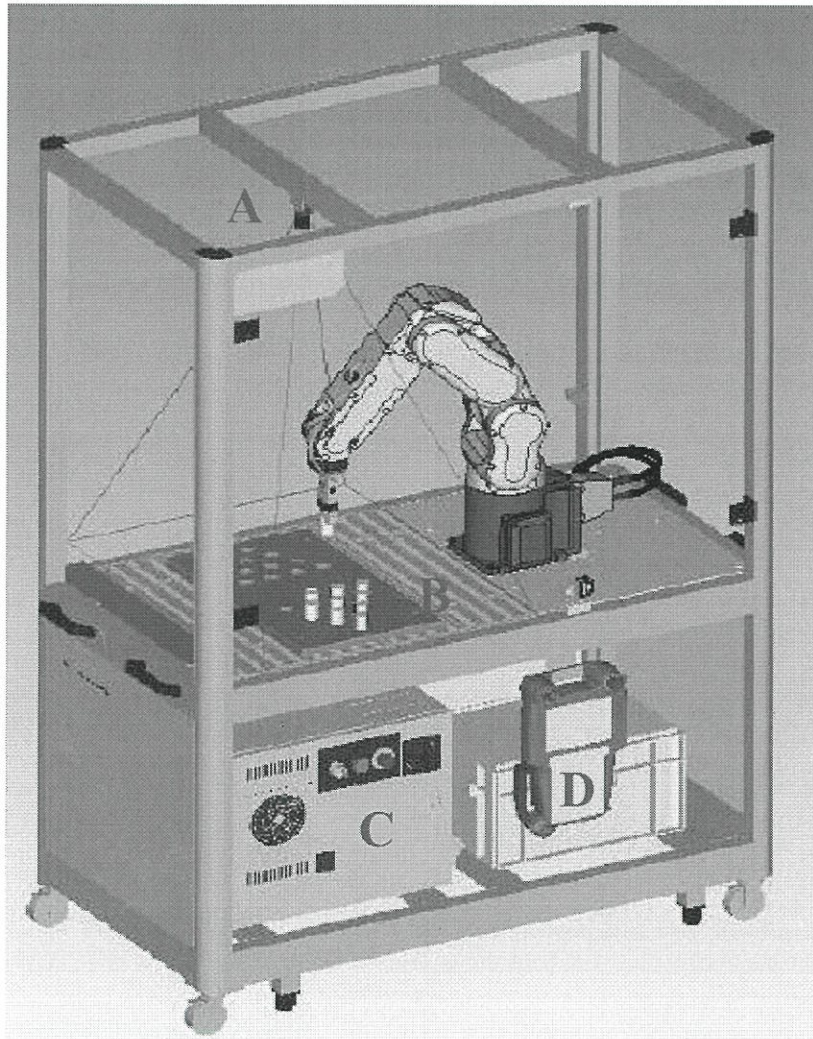
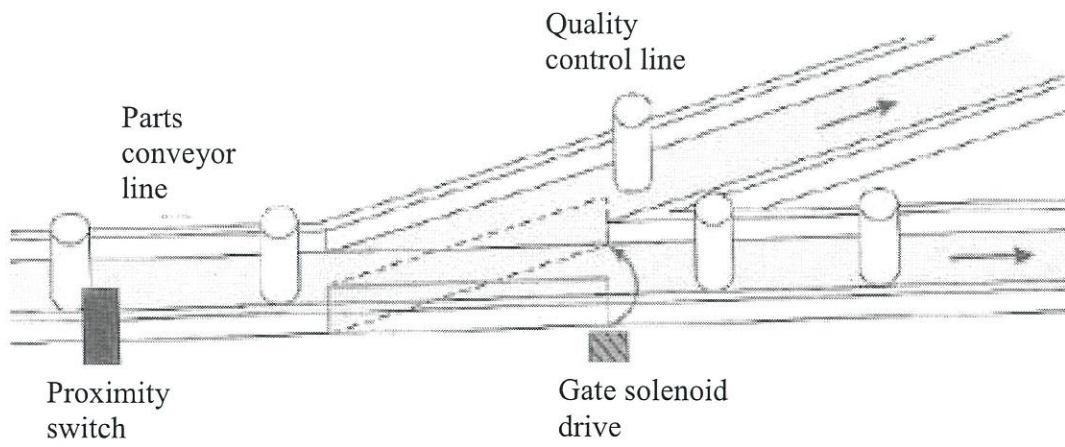

Figure Q3(b)
Figure Q4(b)
- Q3** (a) State **three (3)** reasons industrial robot plays an important role in the manufacturing industry (3 marks)
- (b) **Figure Q3(b)** shows an industrial robot with **three (3)** joints end effector attached to it.
- Q4** (a) Industrial production involves numerous cycles of repetitive and sequential operations. From time to time, the automation sequences could be modified or altered to meet the production need in short notice. Identify **four (4)** benefits of using a programmable logic controller (PLC) in industrial automation for production. (4 marks)
- (b) **Figure Q4(b)** shows a separate conveyor to divert one (1) part out of every twenty (20) parts to the quality control line automatically for inspection purposes. The operation is as follows: